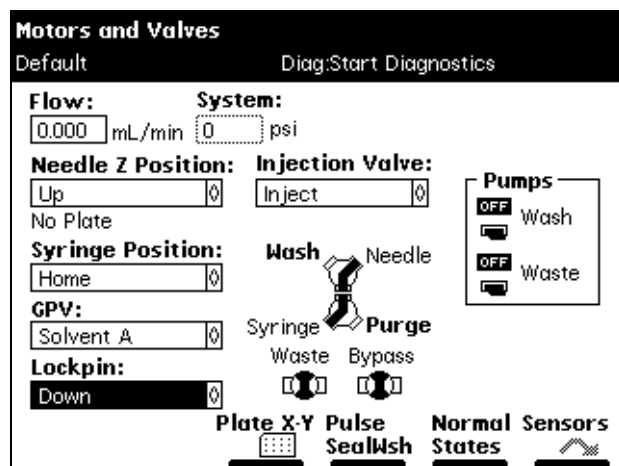

Figure 7-11 Motors and Valves Diagnostics Screen
5. Press **Motors**. The Motors and Valves diagnostics screen appears (Figure 7-11).
5. At the Motors and Valves diagnostics screen (Figure 7-11), select **Syringe Position**, then press **Enter** to display the drop-down list.